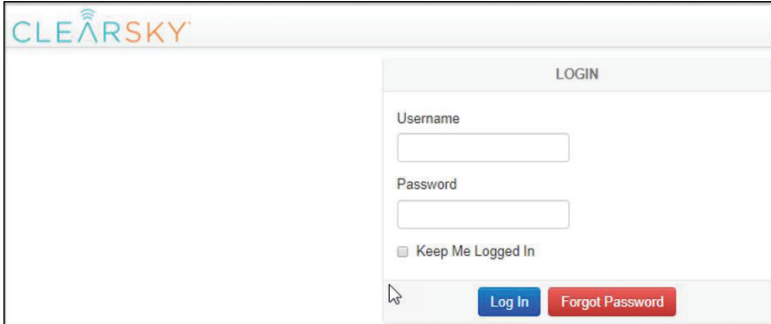

Figure 30
- 64. Log into ClearSky (<https://clearsky.mcneiluscompanies.com>) See Figure 30. If an account needs to be created contact ClearSky support ([clearskysupport@oshkoshcorp.com](mailto:clearskysupport@oshkoshcorp.com)).